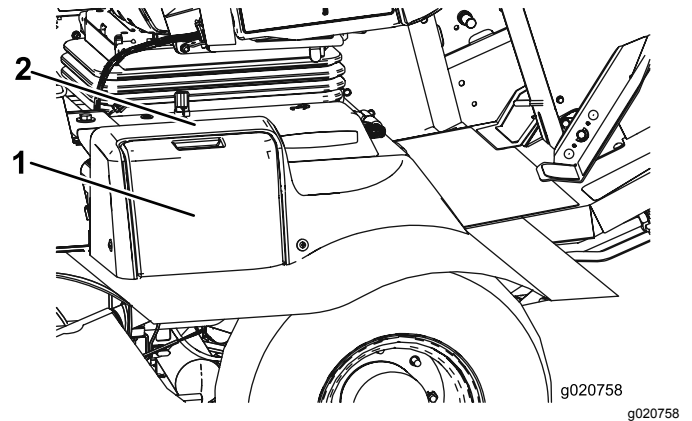

Figure 80
1. Open the battery cover on the side of the shroud (Figure 80).
Note: Press down on the flat surface above the battery cover to ease the removal of the cover (Figure 80).